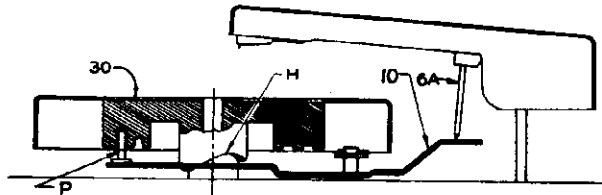

Fig. 2
The vertical movement of the pickup arm is controlled by the motion of the lever (10) Fig. 2 as the cam follower pin "P" follows the up and down contour of the cam in the bottom of the turntable. Adjustment of the vertical lift of the pickup arm can be made by means of the pickup arm post (6A) Fig. 2.
of the lever (10) Fig. 2. As the cam follower pin "P" follows the eccentric grooves on the under side of the turntable, the pickup arm post (6A) is moved forward and back to permit the next record of the stack to drop.